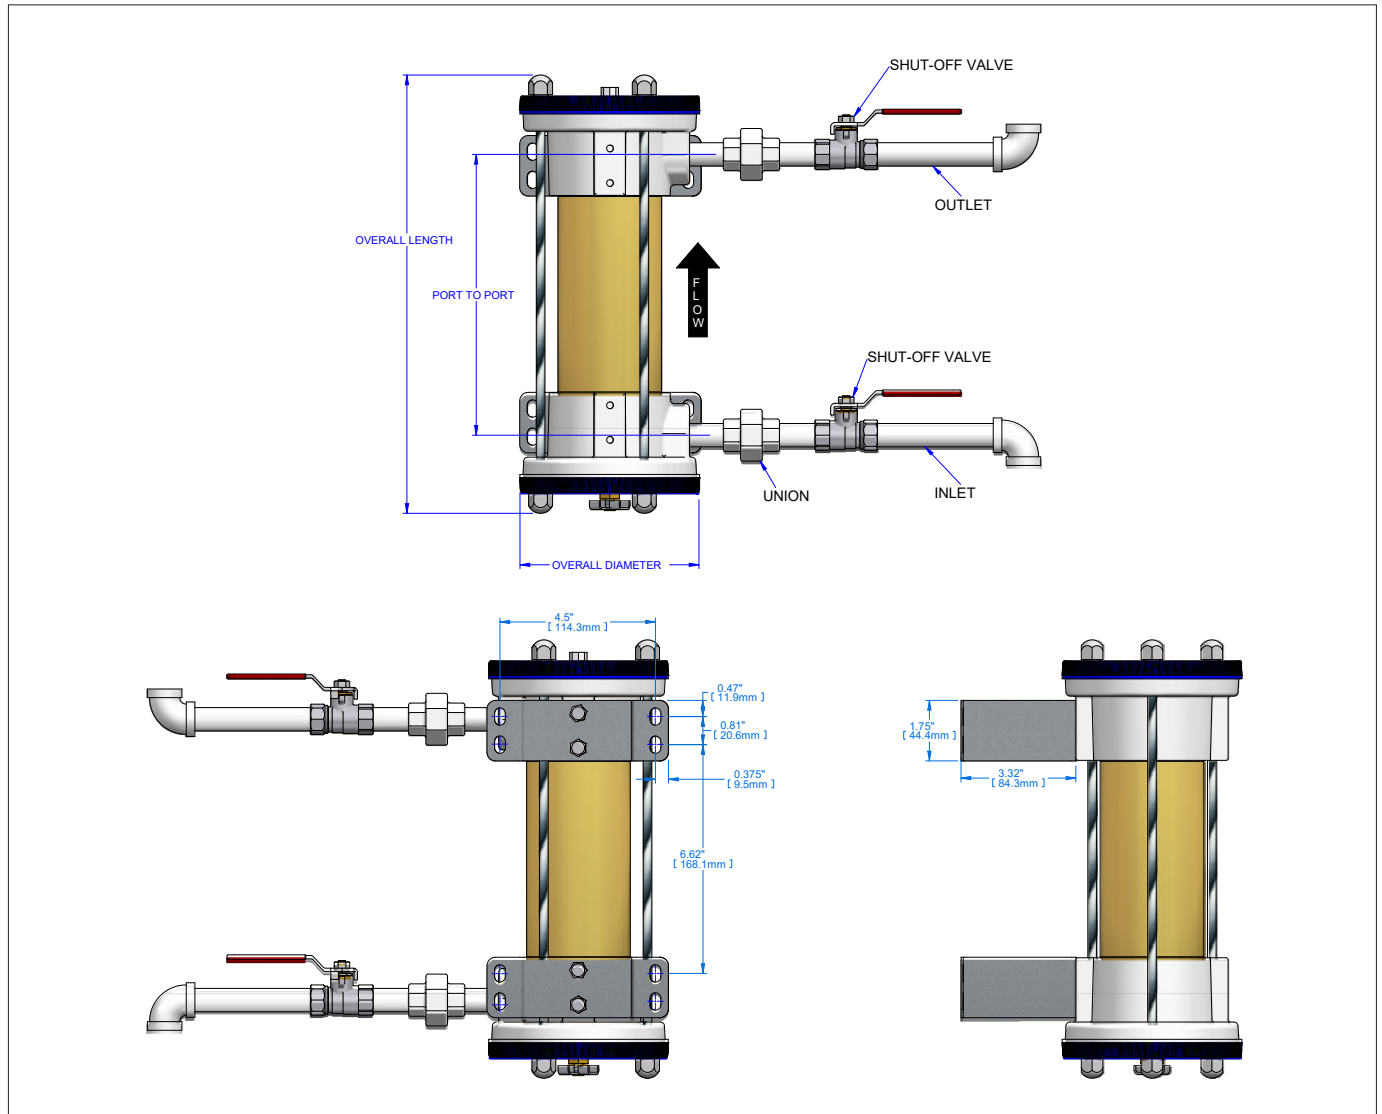

Figure 2 – G-25, M-25, and M-25V Assembly Diagram
1. For maximum efficiency, FLO-DRI unit should be installed as indicated in Figure 2.